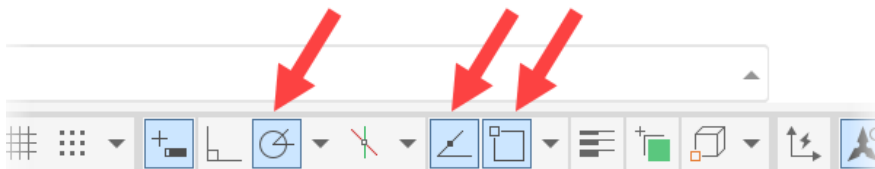

Figure 12.10: The settings required on the status bar
10. You must ensure that **Polar Tracking (POLAR)**, **Object Snap Tracking (AUTOSNAP)**, and **Object Snap (OSNAP)** are active on the status bar, as shown in Figure 12.10. If they are active, they will be shown in pale blue. You can then use these drafting settings to select your **Object Tracking** point.